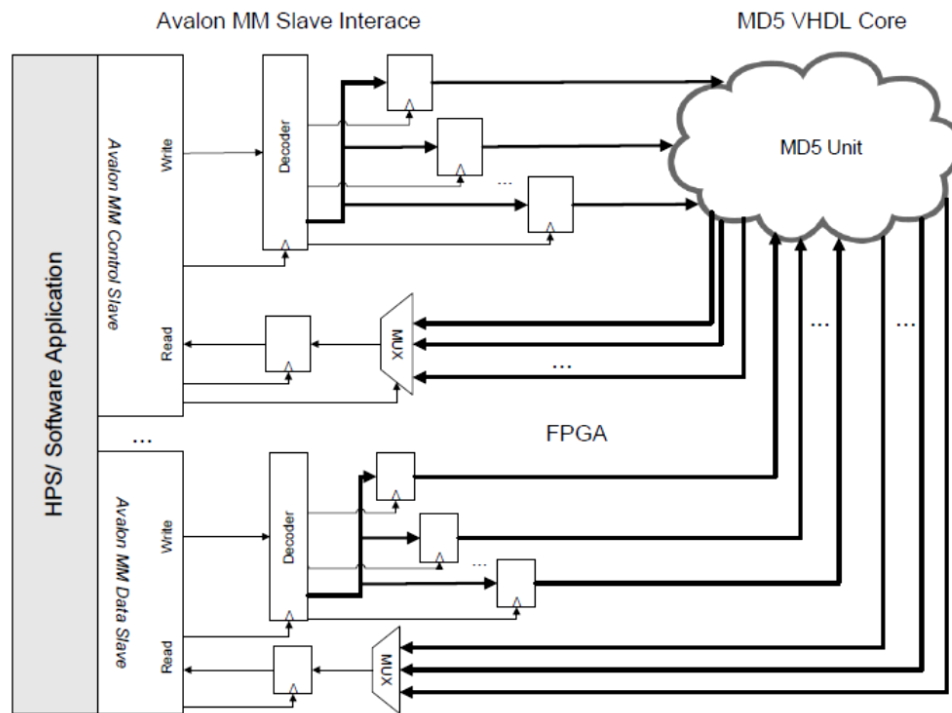

Fig. 2: HPS/FPGA MD5 SoC Architecture
The overall HPS/FPGA SoC MD5 architecture for this project is presented in Fig. 2. The MD5 SoC consists of a HPS running an MD5 hash controller application. The HPS software communicates with a series of Avalon Memory Mapped (MM) Slave interfaces to provide input data, obtain output digests, and send/receive control signals to configure, monitor, and initiate calculations in all 32 engines of the MD5 core. The HPS software must also record the total number of hashes computed, total execution time, and overall hash rate for all 32 MD5 engines.